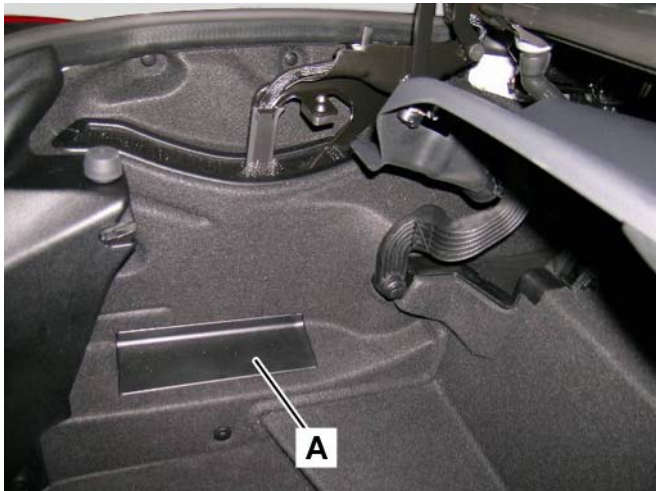

Figure 7
1. Remove the plastic cover in the left paneling of the trunk (A, Figure 7).